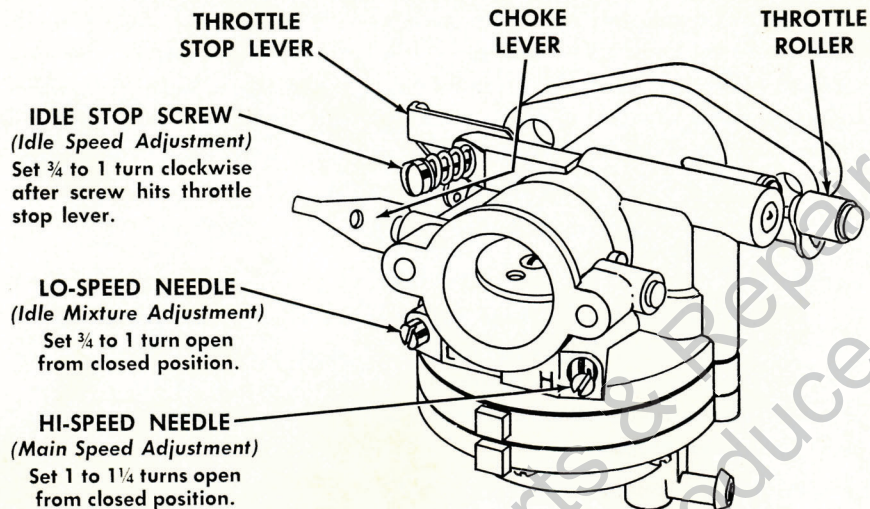

Figure 13—Carburetor Controls
(1) CARBURETOR ADJUSTMENT (See Figure 13)